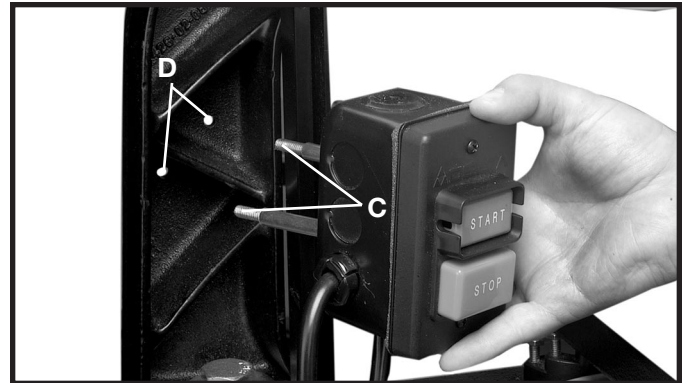

Fig. 35
2. Insert two screws (C) Fig. 35, located on back of switch box, into two holes (D) located in the band saw arm.